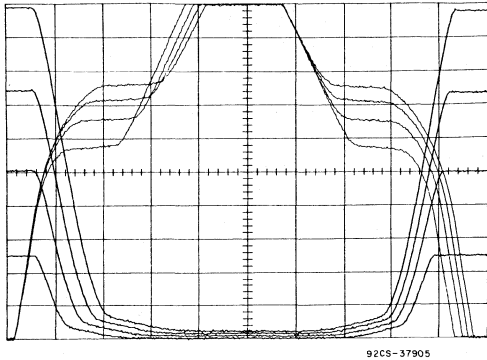
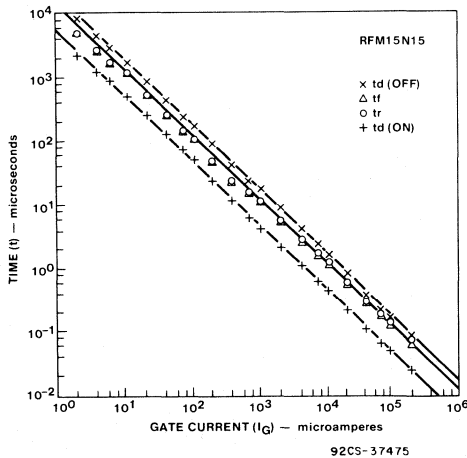

Fig. 11 - Curves similar to those of Fig. 10(c) with drain supply voltage fixed at four values.
Fig. 12 - Various time measurements compared to the inverse scaling suggested by Fig. 11.
Fig. 11 is a family of curves similar to Fig. 10(c), where the drain supply voltage is fixed at four values. Note that the ordinate is 10-volts full scale for the gate voltage, while it is normalized to 100% of maximum-rated drain voltage for the drain-voltage curves. All four sets of curves are taken with a predetermined gate current, $\pm I_r$. The abscissa is also normalized to 100 (I_r/I_g) microseconds full scale, where I_g is the actual gate-drive current. With this characteristic curve, switching behavior may be readily predicted for almost any driving circuit, provided the load is resistive.
Waveforms of Fig. 11 will scale in an inverse manner with gate current. Driving current was varied from ± 200 mA to ± 2 μ A for the device of Fig. 11. Measurements of delay time (on), rise time, delay time (off), and fall time are plotted in Fig. 12 and compared to the inverse scaling suggested by Fig. 11.
It is anticipated that very slow switching (in the millisecond region) will result in the chip thermally tracking the power dissipation, which would cause some deviation from the inverse scaling. This condition was not noted on Fig. 12 for gate currents as low as ± 2 μ A.
Large gate currents result in very fast switching waveforms. The gate of each hex cell is accessed through a gate pad and gate runners, which are of a low resistivity metal followed by buried polysilicon of a moderate resistivity. As a result, the high gate currents cause a propagation delay to exist for those cells far removed from the gate runners. This effect is not seen in Fig. 12, even though the gate current was increased to ± 200 mA.
1. Mark eleven small x's along the gate waveform of Fig. 11, dividing it into 10 equal voltage segments; for example, $V_g = 0, 1, 2, \dots, 9, 10$ volts.
6. Create 10 more time segments for the right half of Fig. 11 corresponding to an average gate voltage of 9.5, 8.5, ..., 1.5, 0.5 volts. Call these segments 11, 12, ..., 19, 20.
Generally, the gate-voltage plateau of Fig. 11 will not be located at the middle of the pulse-generator amplitude (5 volts). As a result, rise and fall times measured this way experience differing gate currents and are "nonsymmetrical". This type of measurement will also lead one to observe temperature sensitivities, load-current sensitivities, and device-to-device variability, all of which are more circuit dependent than device dependent.
The gate-voltage waveforms may be corrected by the voltage across the source-lead inductance and external inductance, which may be mutually common to the input and output current loops. This voltage, $L di/dt$, may be approximated and applied to the gate-voltage waveform after scaling Fig. 12 for the actual gate currents. Generally, this effect is not appreciable for gate current small relative to ± 100 mA. A very loose circuit wiring arrangement with inches of mutually common source wire will exaggerate this effect.